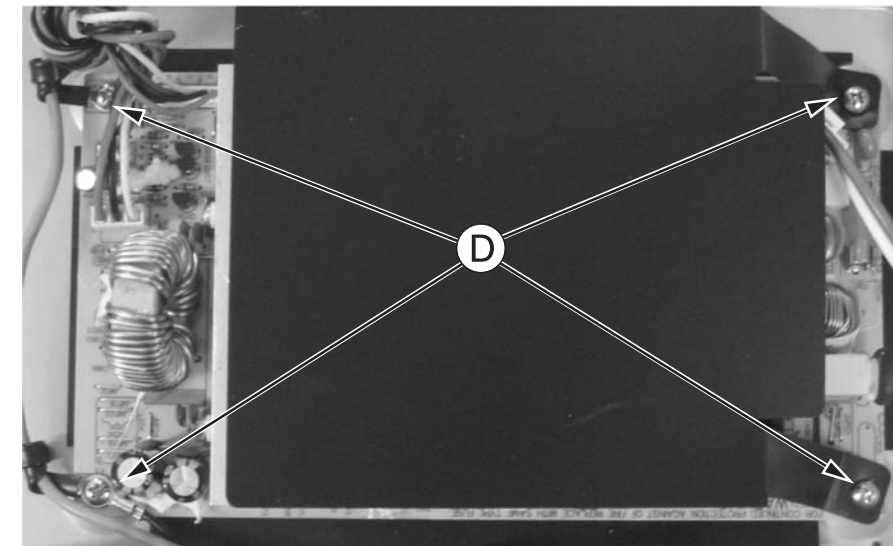

Figure 5
- 1) Loosen 5 screws "D" on the top of power board as shown in figure 5.